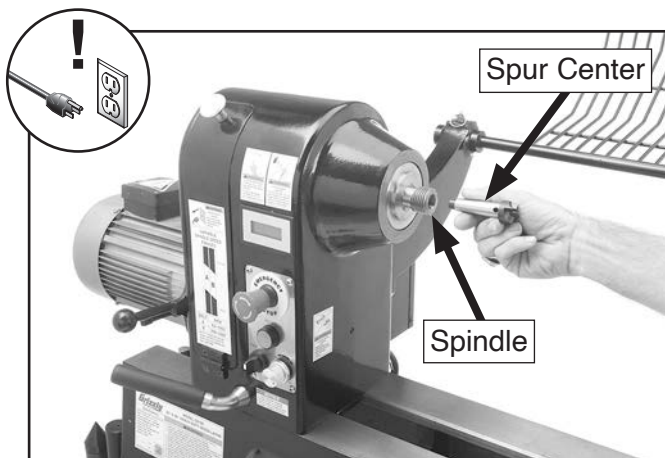

Figure 57. Example of installing center in headstock spindle.
3. Insert tapered end of center into spindle, and push it in with a quick, firm motion, as shown in **Figure 57**.